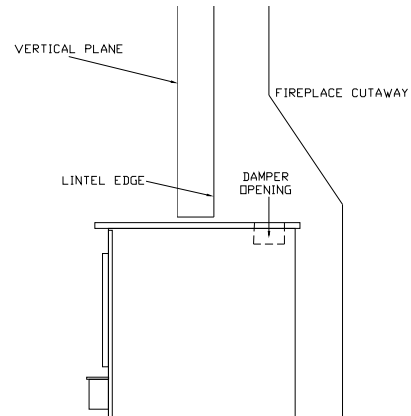

FIGURE 2 POSITIONING
When positioning the heater, the following conditions **MUST** be met! (See Figure 2.)
1. The front of the damper opening must be positioned **BEHIND** the rear edge of the lintel to ensure proper draft. (See Figure 2.)